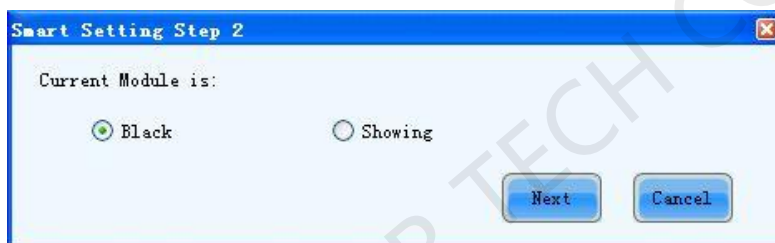

Fig. 7-6 Smart Setting Step 2
- 4) Click "Next" in "Smart Setting Step 1" page to enter " Smart Setting Step 2" page as shown in Fig.7-6. Select according to the module status,